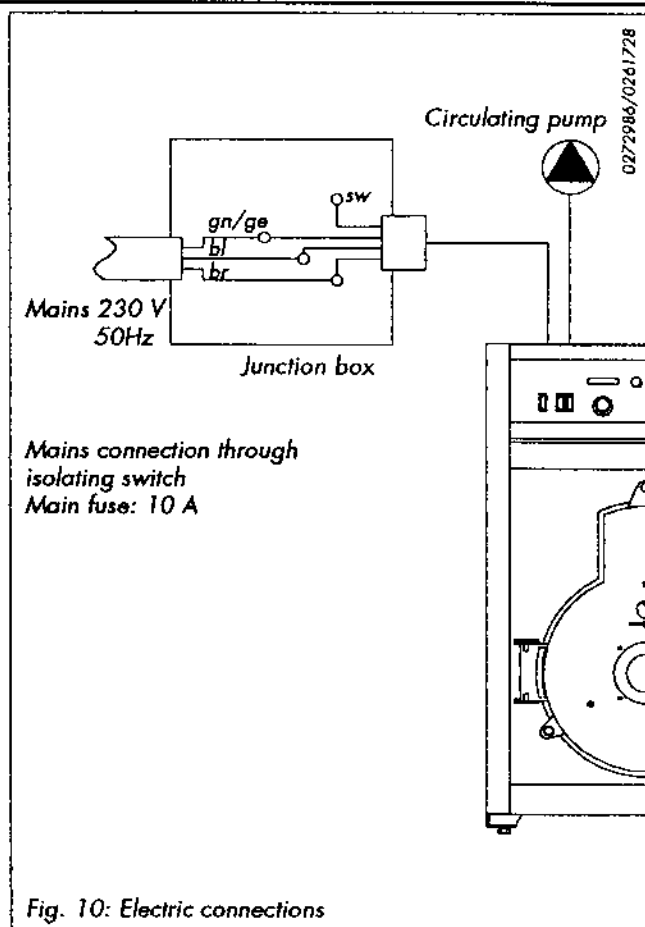

Fig. 10: Electric connections
- Make the mains connection using suitable four-core cable (see Fig. 10).